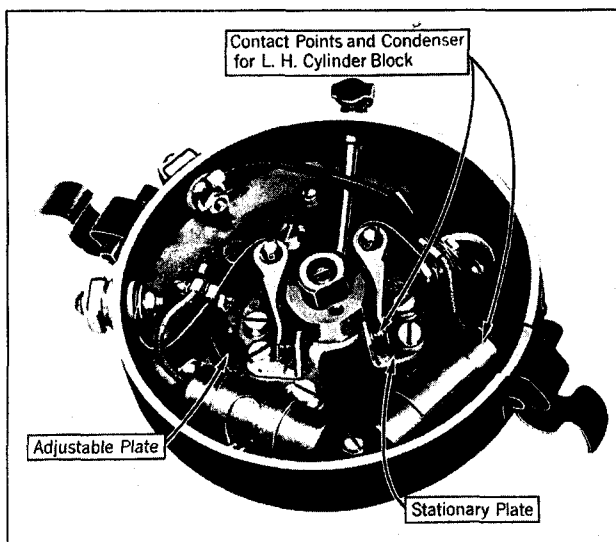

Fig. 18. The right hand contact points and the left hand coil fire the left hand cylinders.
**Timer Distributor:** The distributor is of the same general type as the Cadillac 353 distributor, but is larger and designed to furnish ignition for sixteen cylinders rather than for eight cylinders. There are two sets of timer contact points, both contact arms being operated by a single eight-lobe cam. Each set of points has its own condenser mounted inside the distributor. Fig. 18 shows the arrangement of the breaker mechanism.